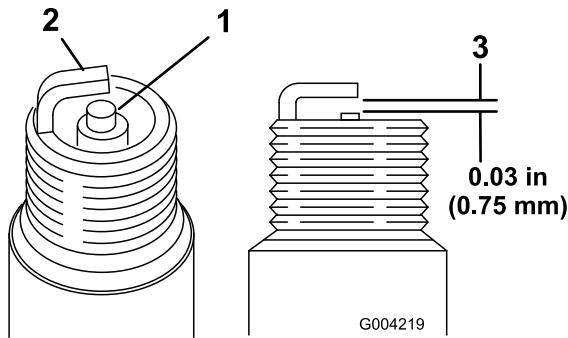

Figure 16
- Look at the center of both spark plugs (Figure 16). If you see light brown or gray on the insulator, the engine is operating properly. A black coating on the insulator usually means the air cleaner is dirty.
- Check the gap between the center and side electrodes (Figure 16).
- Bend the side electrode (Figure 16) if the gap is not correct.